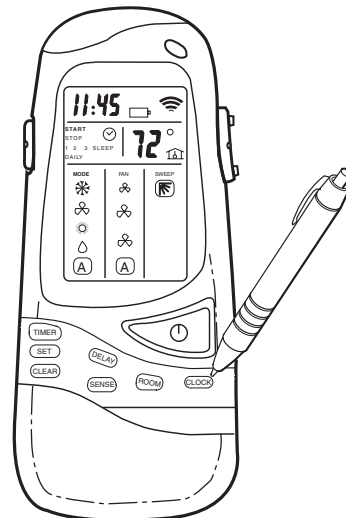

Fig. 5 — Location of Clock Set Button on Remote Control
2. Press **CLOCK** button using the tip of a pen or paper clip. See Fig. 5.